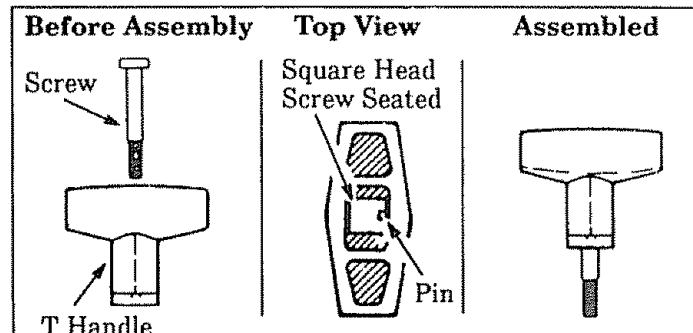

Figure 7
- Drop the threaded end of the square-head T-Handle Screw through the opening in the top of the T-Handle. Figure 7.
- Pull on the threaded end of the Screw to bring the square head of the Screw past the pin inside the T-handle. Figure 7.
- Thread the Trimmer Head onto the Arbor Shaft in a clockwise direction. Hand tighten firmly against the Dust Cup. Figure 7